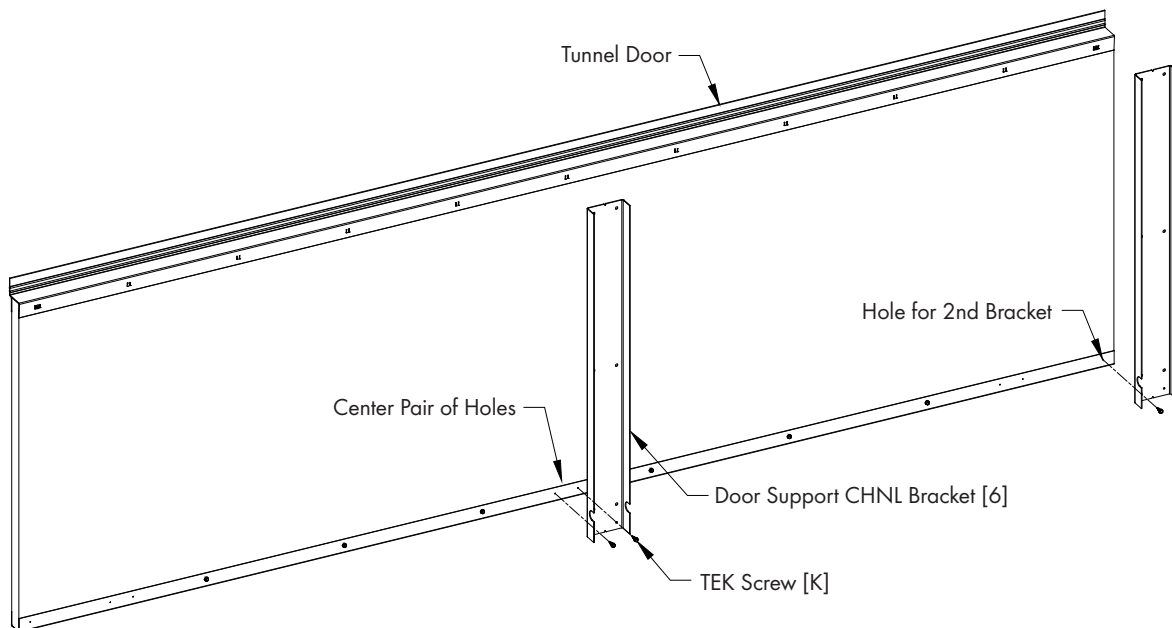

Figure 10
For the Middle Door, attach a Door Support CHNL Bracket [6] to the center pair of holes in the Door Edge Trim using (4) TEK Screws [K]. See Figure 10. Then attach a 2nd Door Support CHNL Bracket [6] at the right end of the Tunnel Door, so that half of the Bracket is on the Door and the other half of the Bracket hangs off the end. See Figure 10. Make sure the End of the Bracket with the Notches in the flanges is down near the Door Edge Trim.